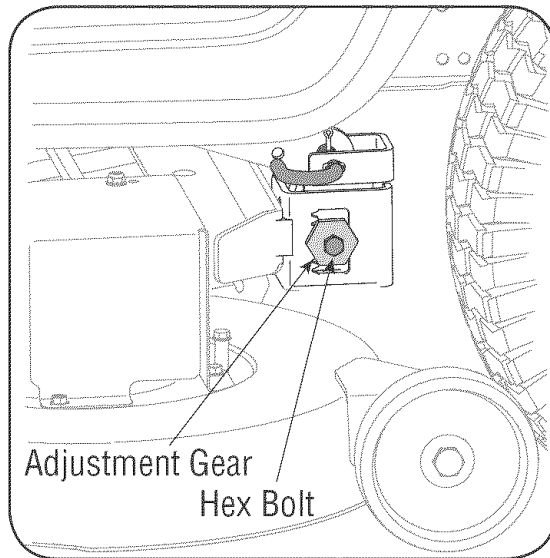

Figure 10
3. Loosen, but do NOT remove, the hex cap screw on the left deck hanger bracket. See Figure 10.